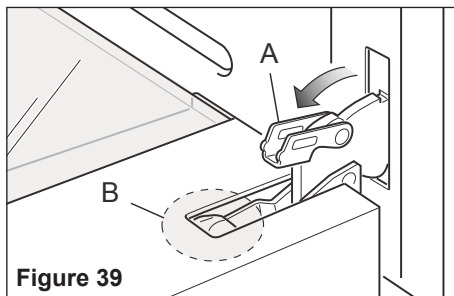

Figure 39
- Fully open the lever "A" on the left and right hinges. (fig. 39).
- Gently close the door until left and right hinge levers "A" are hooked to part "B" of the door (figs. 39, 40).